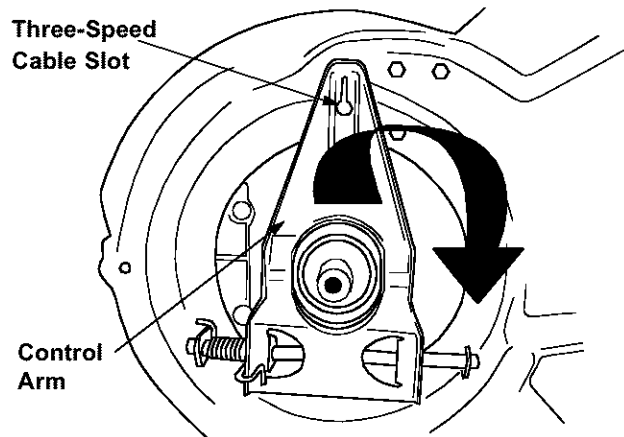

Figure 20
- Pivot the control arm back to its original position and reinstall the three-speed cable into the slot. See Figure 20.